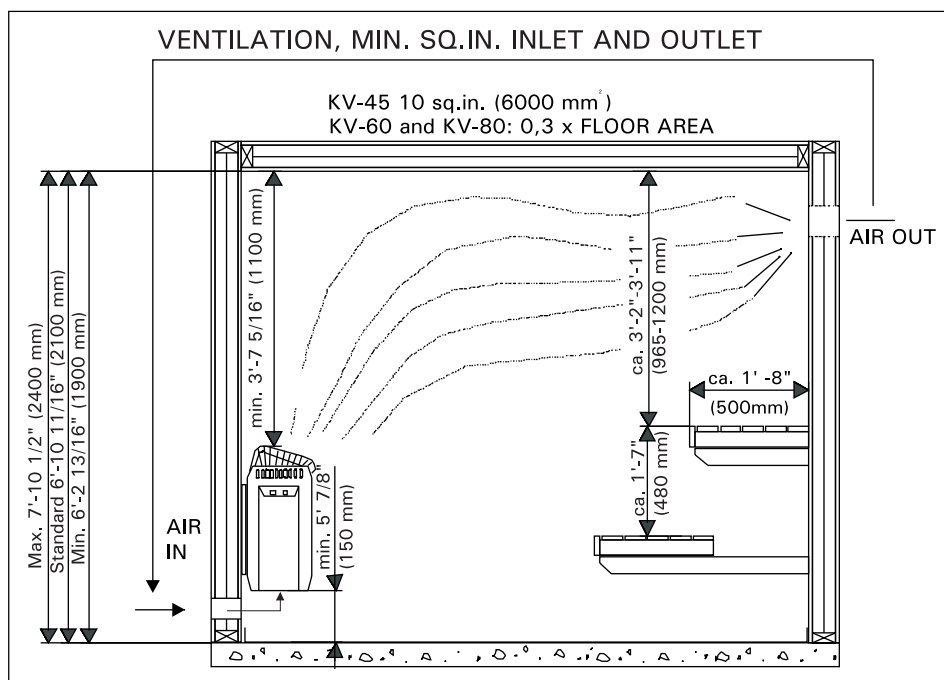

Figure 4. Sauna room
When aiming at a reasonable heater output, it may be advisable to lower the ceiling of the sauna (normally 6' – 10 11/16" (2100 mm). See figure 4. As a result, the volume of the sauna is decreased, and a smaller heater output may be sufficient. The ceiling can be lowered so that the ceiling joists are fixed at a suitable height. The spaces between the joists are insulated (minimum insulation 4" (100 mm) and surfaced as described above.
CEILING HEIGHT	See figure 4.
See fig. 4.
Table 1. Installation details of a KV heater. See fig. 4 and item 2.3. "Heater output"
- NOTE!** There should be a support, e.g. a board, behind the panel, so that the fastening screws can be screwed into a thicker wooden material than the panel. If there are no boards behind the panel, the boards can also be fastened on the panel. See figure 4.